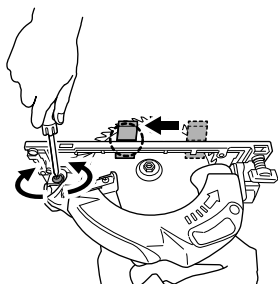

Fig. 18
- (4) Move the marked wood chip to the front of the base, and turn the parallelism adjustment screw so that the marking corresponds to the base side (Fig. 18).